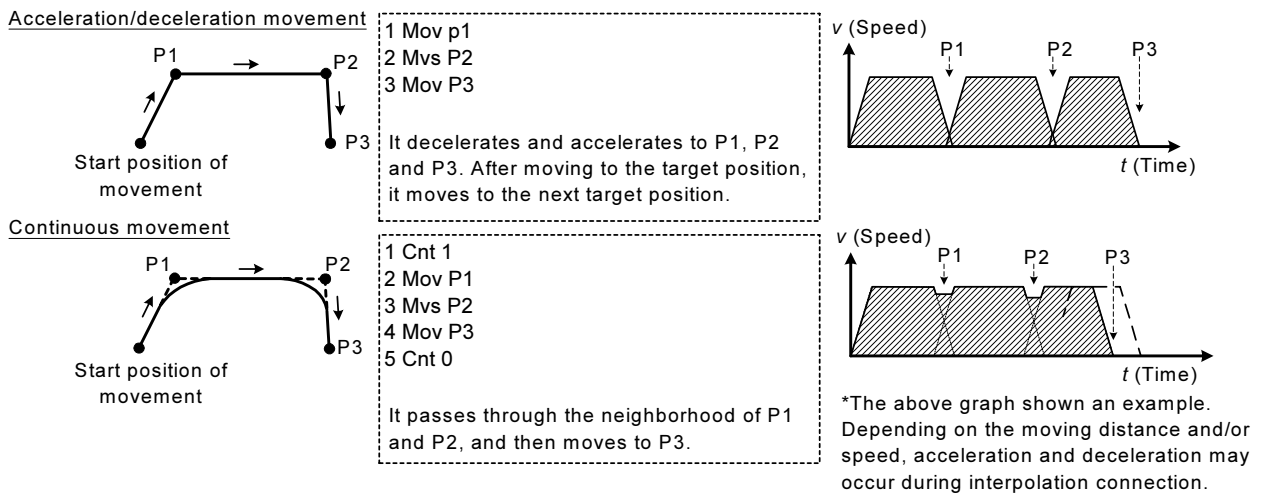

Fig.4-17:Acceleration/deceleration movement and continuous movement
- (1) The interpolation (4 step to 8 step of the example) surrounded by Cnt 1 - Cnt 0 is set as the target of continuous action.
- (2) The system default value is Cnt 0 (Acceleration/deceleration movement).
- (3) If values 1 and 2 are omitted, the connection with the next path segment is started from the time the deceleration is started.
- (4) As shown in Fig. 4-17, in the acceleration and deceleration operating mode, the speed is reduced in front of the target position. After moving to the target position, the speed for moving to the next target position starts to be accelerated. On the other hand, in the continuous operating mode, the speed is reduced in front of the target position, but it does not stop completely. The speed for moving to the next target position starts to be accelerated at that point. Therefore, it does not pass through each target position, but it passes through the neighborhood position.